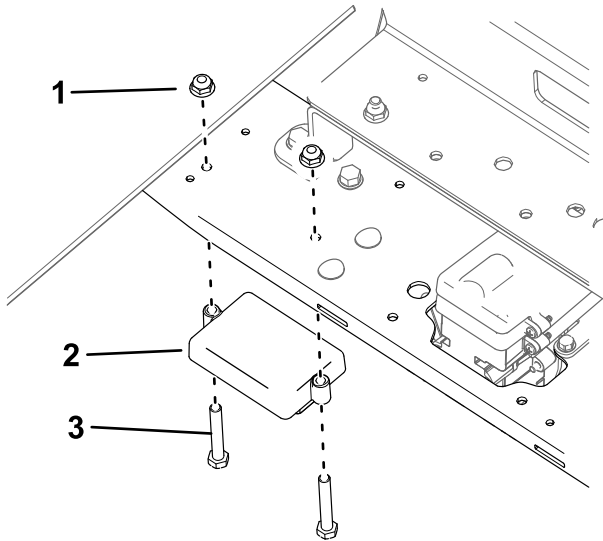

Figure 4
4. Install the sensor module under the crossmember frame using 2 bolts and 2 nuts (Figure 4).